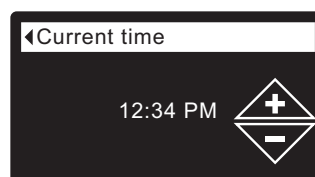

FIG. 48
5. Press the SELECT (O) button to display the Current time screen (See Figure 48).